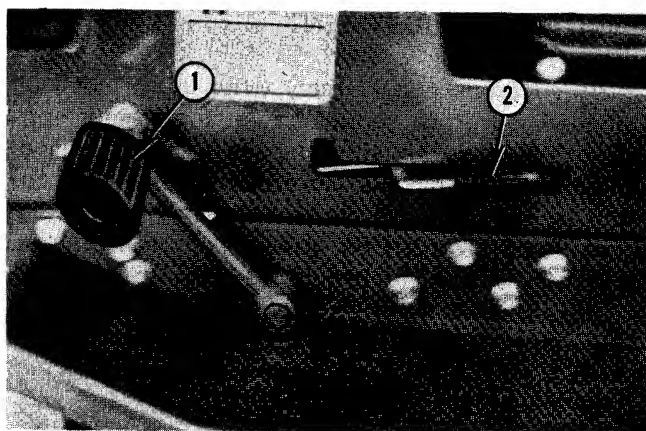
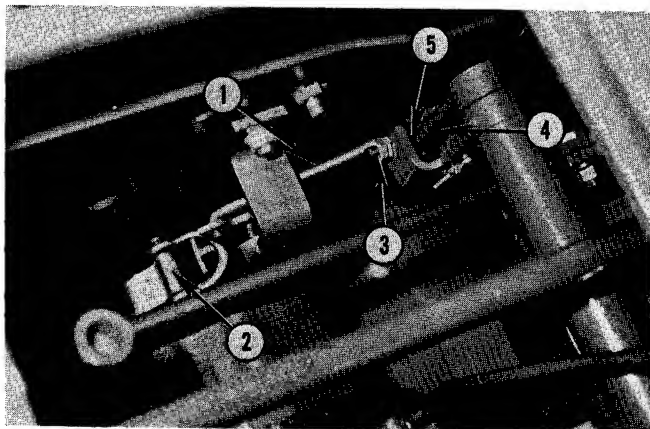

Fig. 30 — Brake Adjustment
Fig. 31 — Brake Adjustment
3. With clutch-brake pedal, No. 1, Fig. 30, in up position, increase clearance between bolt head, No. 5, Fig. 31, and brake arm, No. 4. Repeat Step 1 and readjust if necessary. Tighten jam nut, No. 3.